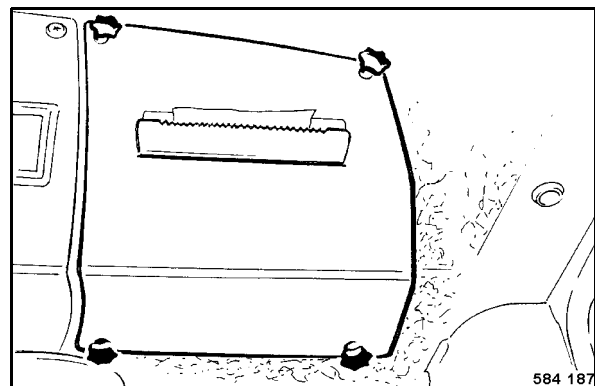

Fig. 104
- Unscrew the star handles (Fig. 104) and remove the cover.